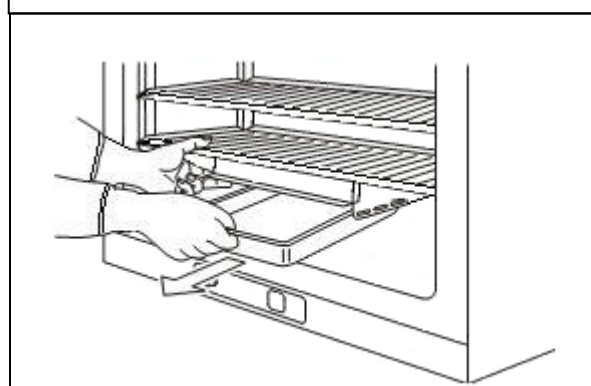

Fig. 2
2. Pull out the humidifying pan toward you. (Fig. 2)